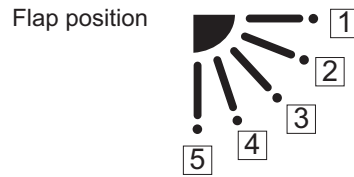

Fig. 2-3
- * Setting data "YYYY" (refer to Fig.2-3)
When the flap position is set to 4 or 5 and the unit is in the cooling or dry mode, the flap position is moved to 3 and the operation is started. (refer to Fig.2-3)
At this time, the unselected flaps are moved to the position 1. (refer to Fig.2-3)